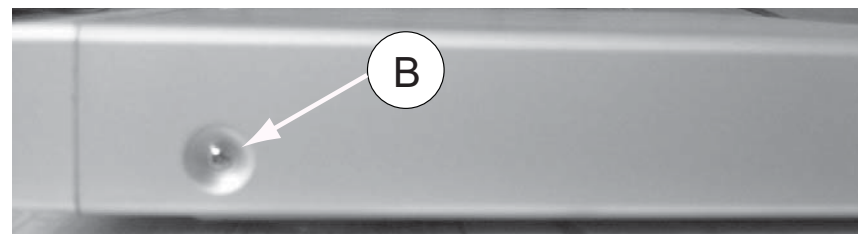

Figure 2
- 1 screws "B" each on the left & right side as show in figure 2